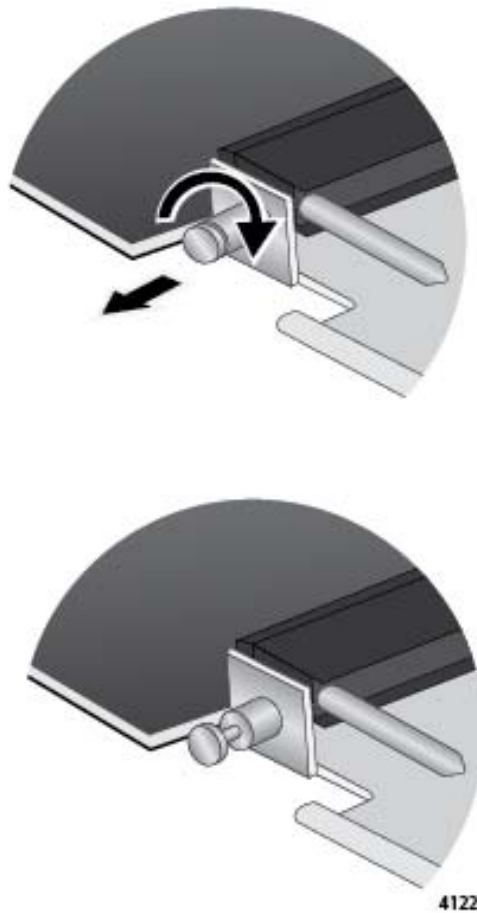

Figure 90. Retracting the Retaining Pin on the AT-SBx81XLEM Line Card
6. With your thumb and forefinger, pull out the retaining pin on the side of the line card and turn it clockwise one quarter turn so that it remains in the retracted position. Refer to Figure 90 on page 163.